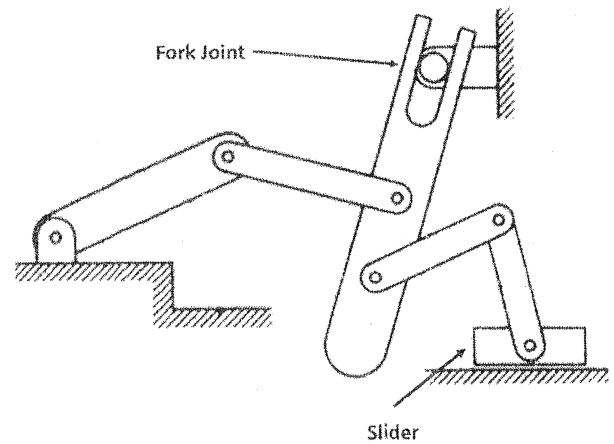

Figure Q2(d)
- d) Find the DOF of given rigid body system shown in figure Q2(d) [2.0 Marks]